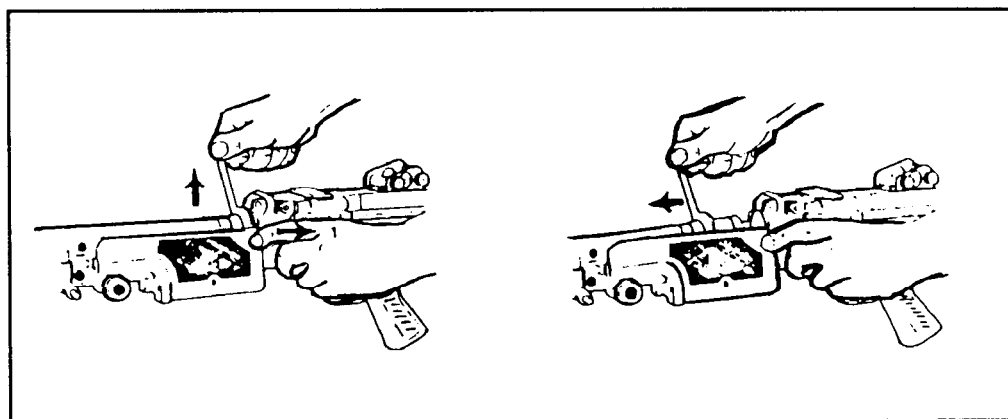

Figure 2-5. Removing the barrel.
b. **Removing the Barrel Group (Figure 2-5).** The barrel group consists of barrel, heat shield, flash suppressor, front sight, gas regulator, and gas regulator collar.